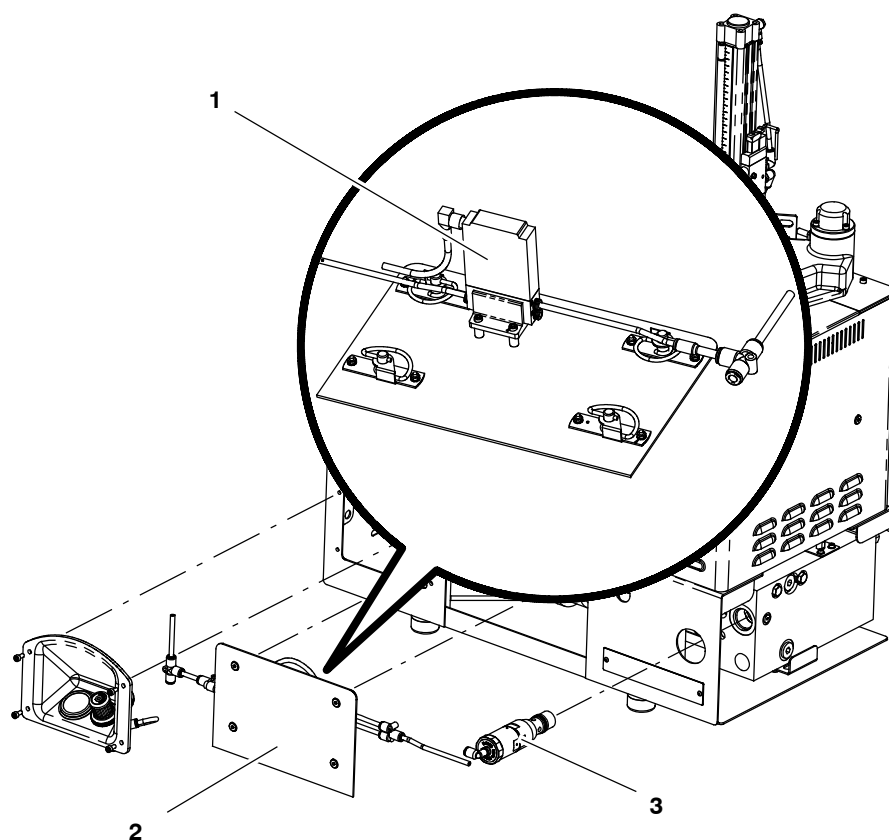

Figure 3-8 Connecting a signal to the I/P transducer for the pressure control P option
See Figure 3-8. Connect a customer-supplied 4-20 mA DC supply control signal to the I/P transducer (1) located on the inside of the drive cover assembly (2). Refer to Table 3-4 for the wiring connections.